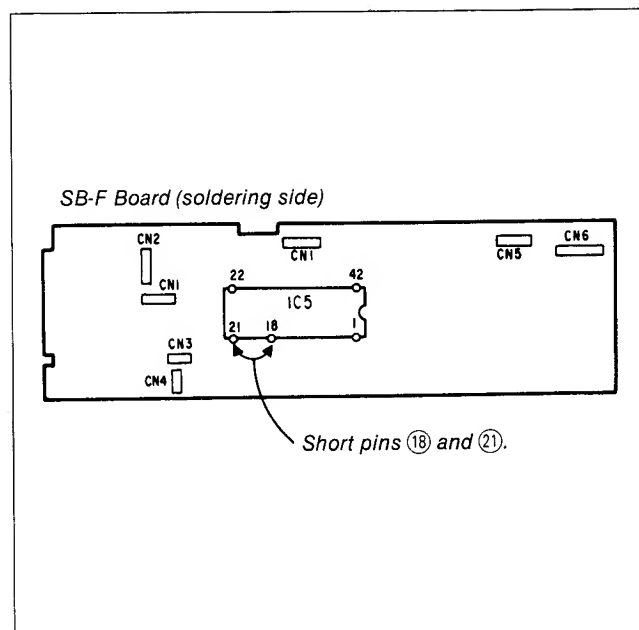

Fig. 8-52.
- ii) Short pins ⑮ and ⑰ of IC5 on SB-F Board by soldering lead wire, etc. (See Fig. 8-52)